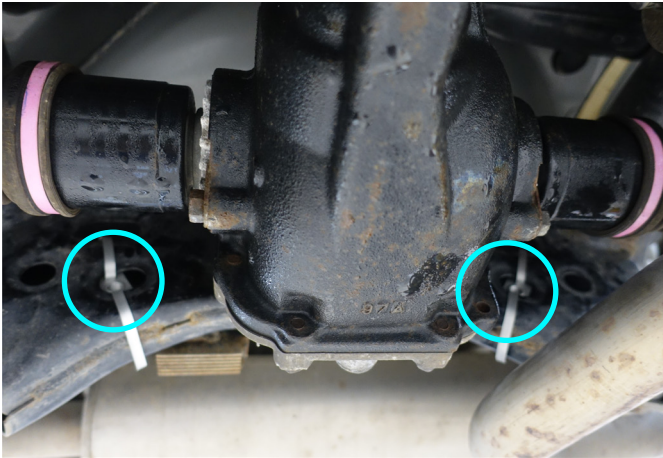

Fig. 1
1. Install M10 insert nuts (item A) into frame as shown in Fig.1.